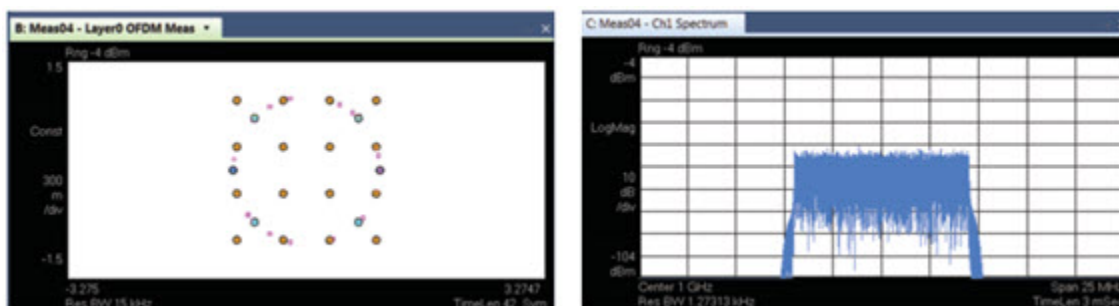

Figure 12 - Constellation and spectrum of 16 QAM LTE without interference
The figures below demonstrate the impact of co-channel interference. These measurements were done on a lab test system to show the concept, since a constellation cannot be easily obtained in a field test. The top figure shows LTE signal quality without co-channel interference. We can see synchronization channels with binary phase-shift keying (BPSK), physical broadcasting channel with quadrature phase-shift keying (QPSK), and downlink shared channel (traffic channels) with 16 QAM. Sync channels and broadcasting channel modulation forms a circle as shown in Figure 11. When a wireless microphone signal (FM) transmits at the center of an LTE channel where both the sync and broadcasting channels are assigned, the constellation gets blurred, and the control channels are indistinguishable from the traffic channels as shown in Figure 12. This will prevent the mobile from synchronizing with the network, and the call will eventually drop.